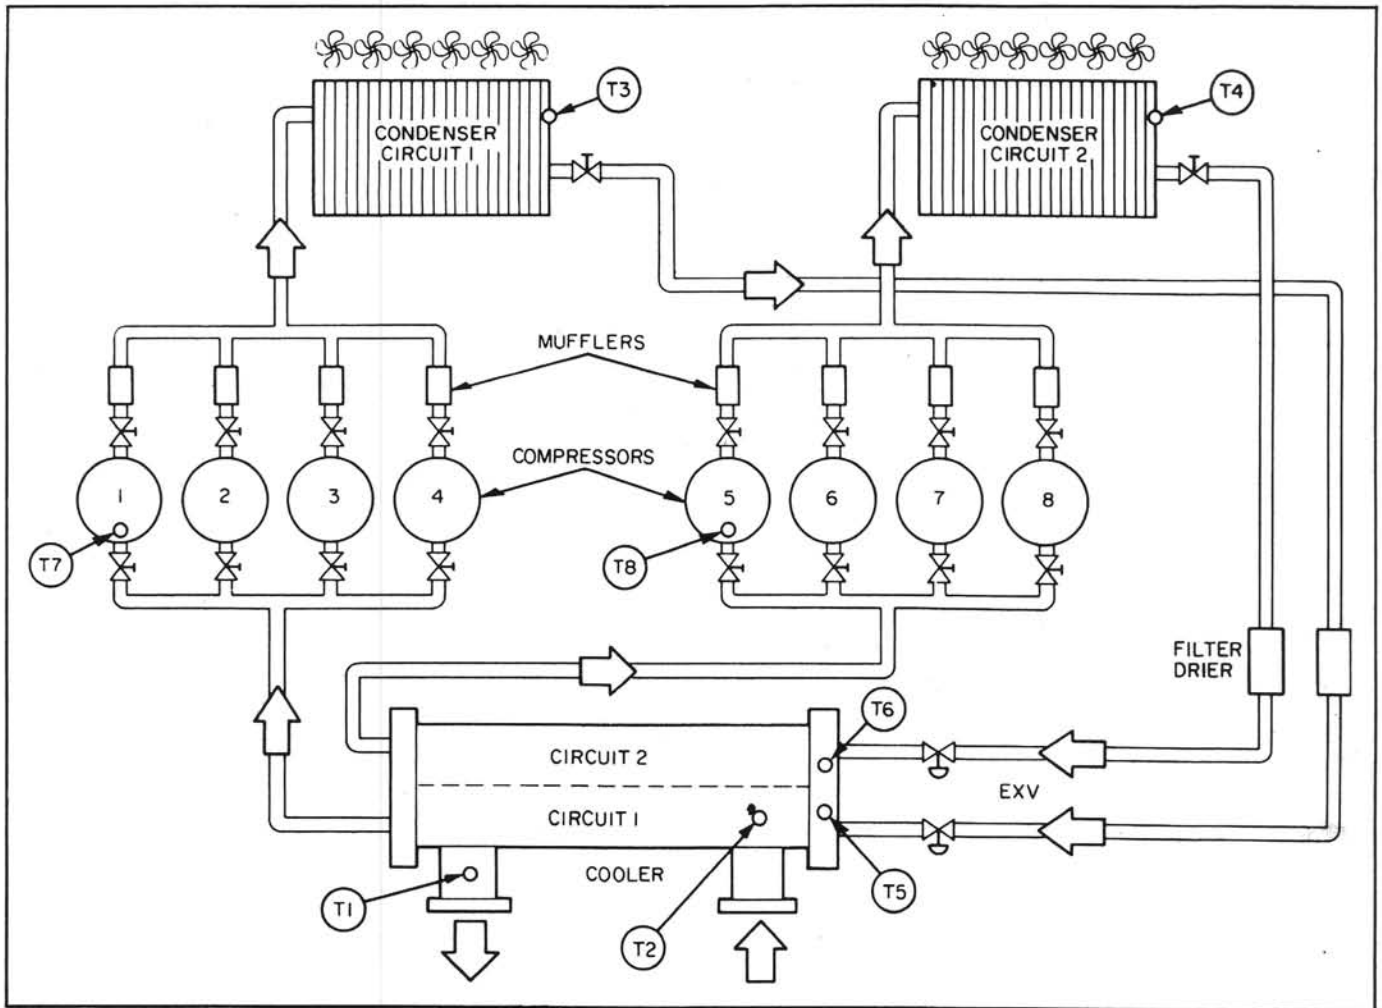

Fig. 19 – Thermistor Locations
**Step 4 – Check Thermistors that Control EXV –** Check thermistors that control processor output voltage pulses to EXV's. Circuit No. 1 thermistors are T5 and T7, circuit No. 2 thermistors are T6 and T8. Refer to fig. 19 for location.
3. Make sure that thermistor leads are connected to proper pin terminals at J1 terminal strip on processor board and that thermistor probes are located in proper position in refrigerant circuit (fig. 19).
When TXV is used, thermistors T5, T6, T7, T8 are eliminated (see fig. 19).
The general locations are shown in fig. 19.
1. Connect the digital voltmeter across the appropriate thermistor terminals at the J1 terminal strip on the processor board (see fig. 19 and 20). Using the voltage reading obtained, read the sensor temperature from table 14. To check thermistor accuracy, measure temperature at probe location with an accurate thermocouple-type temperature measuring instrument. Insulate thermocouple to avoid ambient temperatures from influencing reading. Temperature measured by thermocouple and temperature determined from thermistor voltage reading should be close,  $\pm 3^{\circ}\text{C}$  if care was taken in applying thermocouple and taking readings.